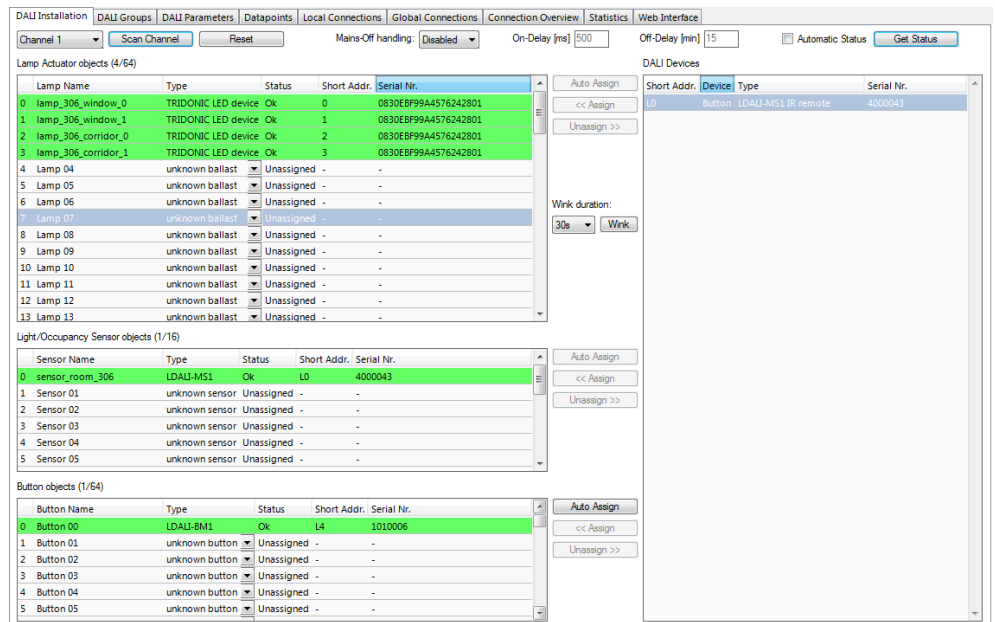

Figure 31: LINX Configurator software, After Configuration Download.
- After the download is complete, go back to the DALI Installation tab and press the **Get Status** button. Now the assigned DALI devices are displayed on a green background (see Figure 31). The green background color indicates that the communication with the device is OK. If there is a communication error, the device will be displayed with a red background color.